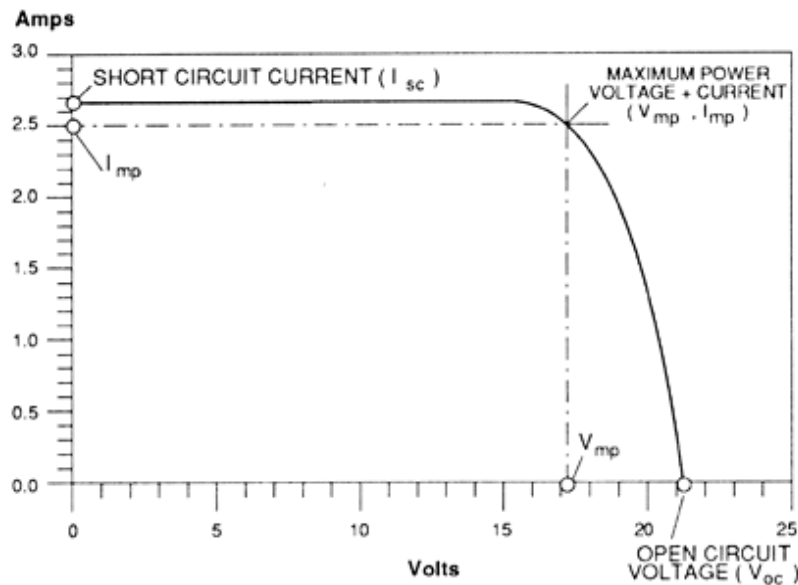

Figure 3.17: Current-Voltage Characteristics of a Solar Module
Solar radiation varies all through the day. At times, the sun shines too bright. While as, sunshine simply fades due to a thick cloud cover. So, one should know the effect of this changing radiation on the current (I) and voltage (V) of a module. I-V feature presents the basic picture (Figure 3.17) of a solar PV device performance. There are two important parameters to describe a solar module. These are known as the Open circuit voltage (V_{oc}) and Short circuit current (I_{sc}).